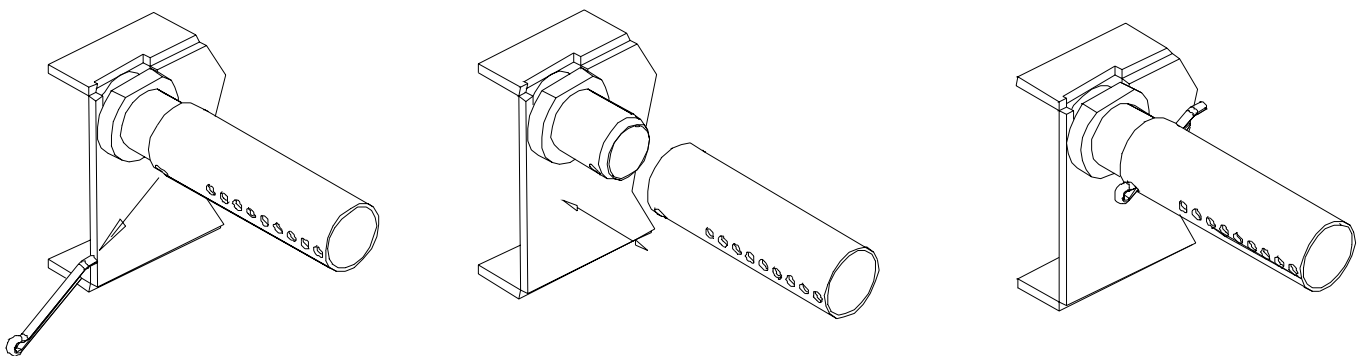

Figure 4.3 – Secondary Air Tube replacement
4.5 Secondary Air Tube Replacement (see Figure 4.3)